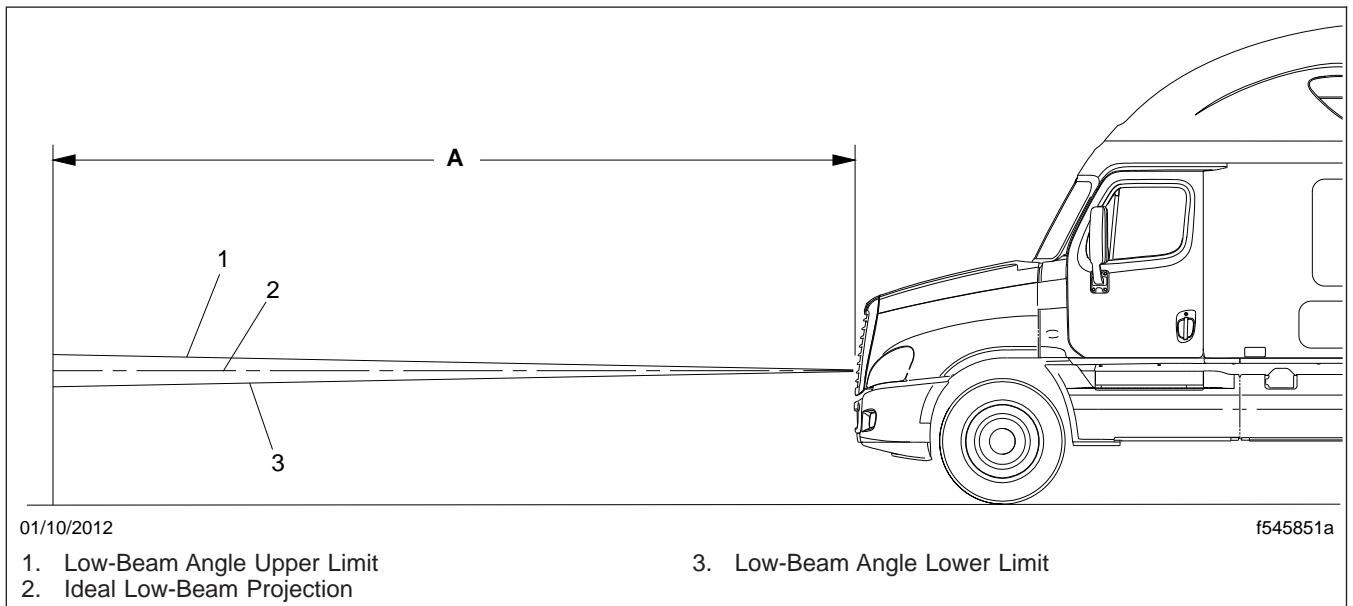

Fig. 23.3, Vertical Low-Beam Headlight Variation Limits
5. Check the vertical adjustment of the low beams. The center of each beam projection should fall on or near the marks made during step 3. See Fig. 23.3.
| Distance Between Ground and Headlight: in (mm) | Desired Variation (Fig. 23.3, Item 2): in (mm) | Upper Limit (Fig. 23.3, Item 1): in (mm) up | Lower Limit (Fig. 23.3, Item 3): in (mm) down |